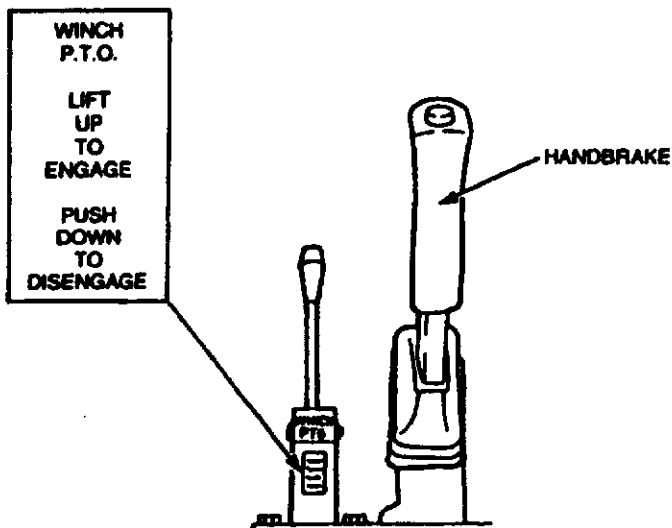

Figure 2-8 Winch/PTO Control Operation
- c. Depress the clutch pedal and select reverse gear, then pull up the winch/PTO control in the seat base (see Fig. 2-8) to engage the winch drive. Increase engine speed to
- c. Depress the clutch pedal and select a low forward gear, then pull up the winch/PTO control in the seat base (see Fig. 2-8) to engage the winch drive. Increase engine speed to approximately 1300 rpm then slowly release the clutch pedal to begin winching in the rope.